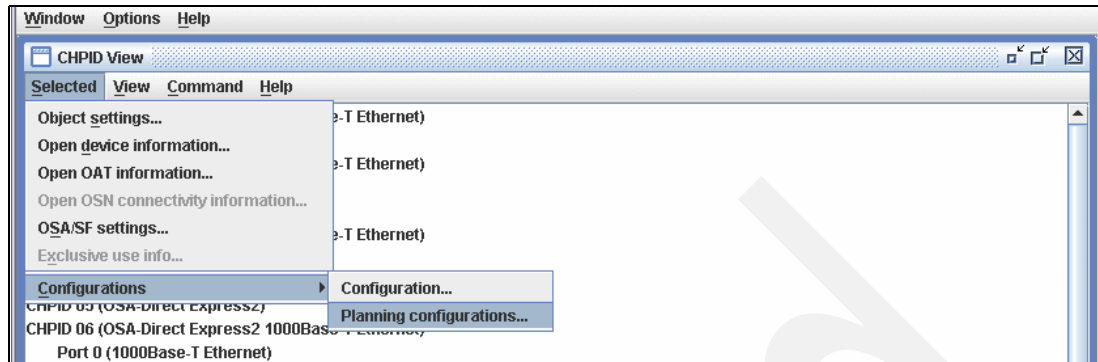

Figure 4-21 OSA/SF Workstation Interface - Planning configurations
- From the OSA/SF main view, initialize the CHPID view. Select **Configurations** → **Planning configurations...** (Figure 4-21).